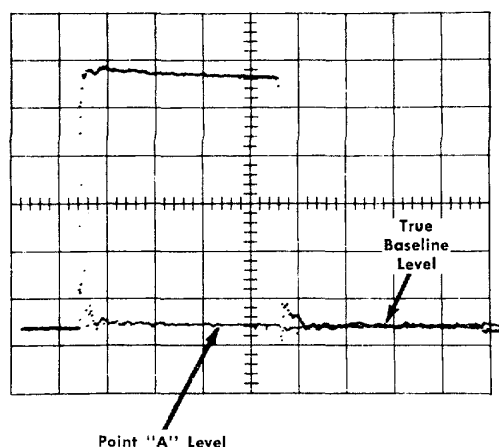

Fig. 6-7. Displayed pulse of Type 109 or 110 Pulse Generator with one charge line connected and the PREAMP SENS. control properly adjusted.
3. Set the Type 3T77 DOTS PER DIV. switch to 10 and the TIME/DIV. to 20 nSEC. Set the TRIGGER SENSITIVITY control for stable triggering on both the short and long pulse of the Type 109 or 110 (this will be evidenced by the presence of a baseline under the pulse; see Fig. 6-7).
5. Adjust the A PREAMP SENS. to align the baseline (point "A" level in Fig. 6-7) under the pulse with the true baseline that precedes and follows the pulse.
4. Adjust the B PREAMP SENS. to align the baseline under the pulse with the true baseline (Fig. 6-7).